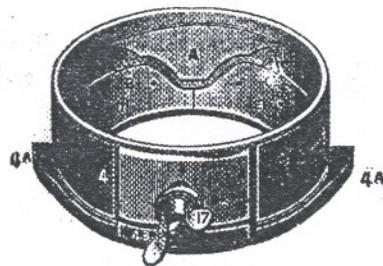

Fig. 5.
The cam shell (Fig. 5) contains the steel cams, A, B, C., which raise and lower the cylinder or plain needles; it rests upon the base and is kept in position by the cylinder round which it revolves. The stitch cam (A) is adjustable by means of the wing nut (16) on the outside of the cam shell. Between this wing nut and the shell is a pointer (16) which indicates upon the finger plate (15) the position of the stitch cam (A). The lowest point (15) makes the longest stitch or loosest tension, and the highest point (1) makes the shortest stitch or highest tension. The large wing nut (17) is for securing the ribber